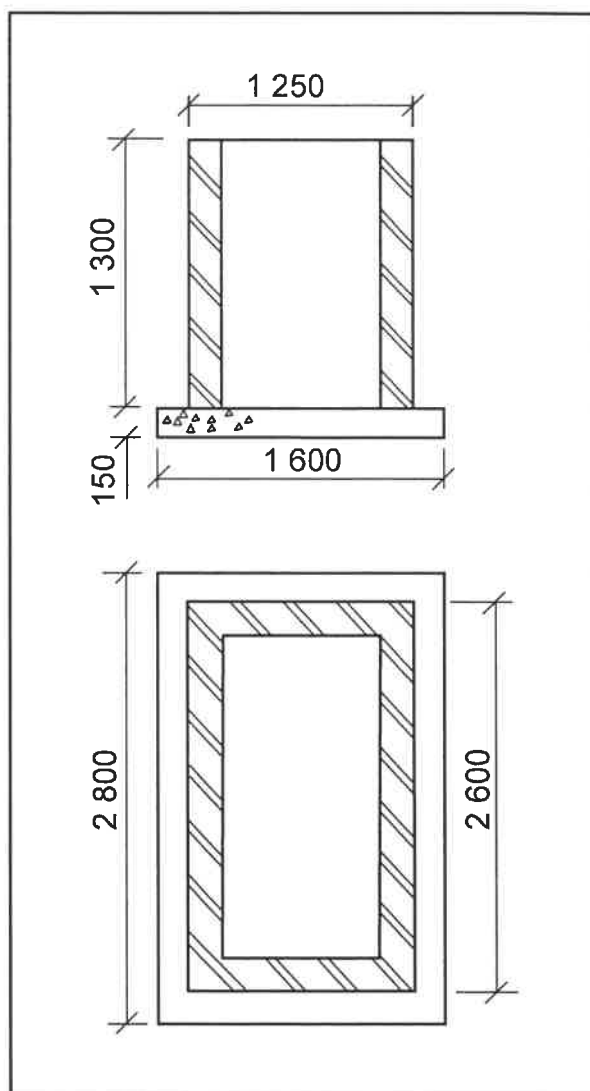

FIGURE 3.4
- 3.4 FIGURE 3.4 below shows the incomplete sectional views through the bricks and concrete floor slab of a manhole.